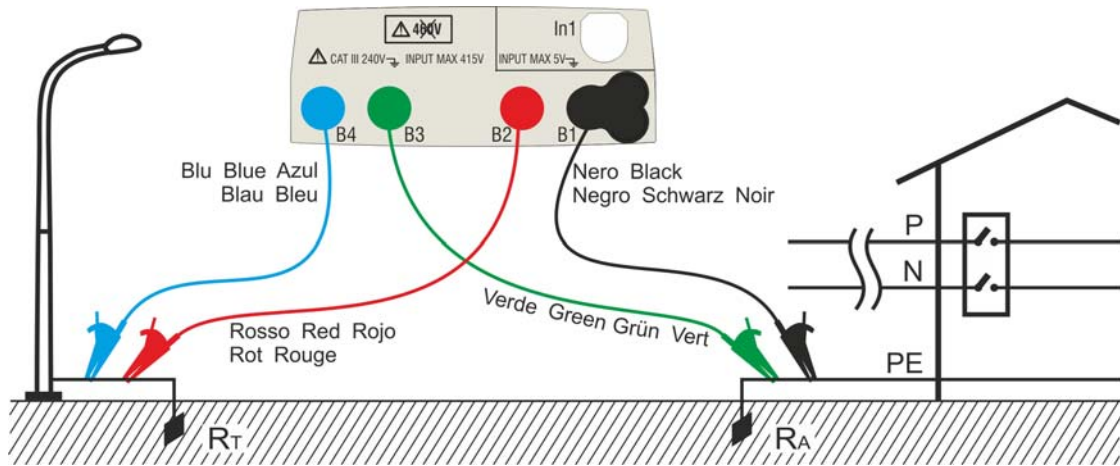
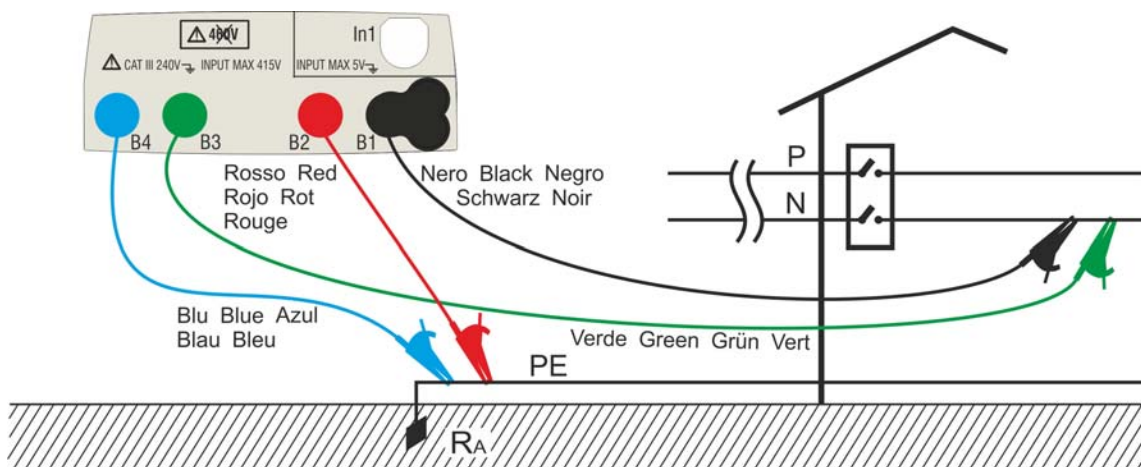

Fig. 27: Two-wire earth resistance measurement using an auxiliary rod
Fig. 28: Two-wire earth resistance measurement from the panel board
- 12 Connect the alligator clips to the auxiliary rods and to the installation under test according to Fig. 26, Fig. 27, Fig. 28 or Fig. 29.